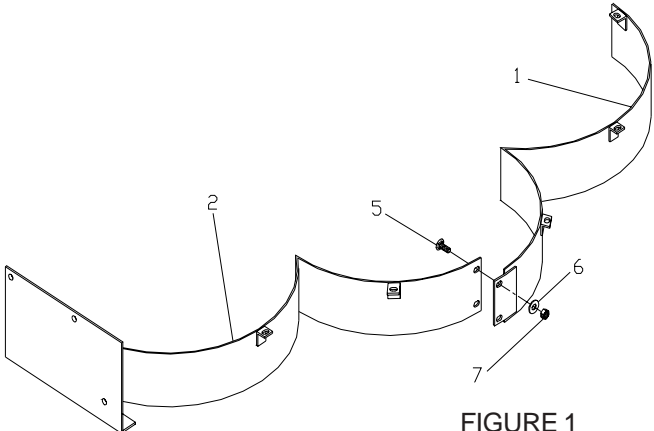

FIGURE 1
Step 2: In the kit there are two baffle sections(item 1 and 2). Bolt the two sections together in the front using two of the carriage bolts provided. (see fig. 1) NOTE: Turn the fasteners as shown in fig. 1.